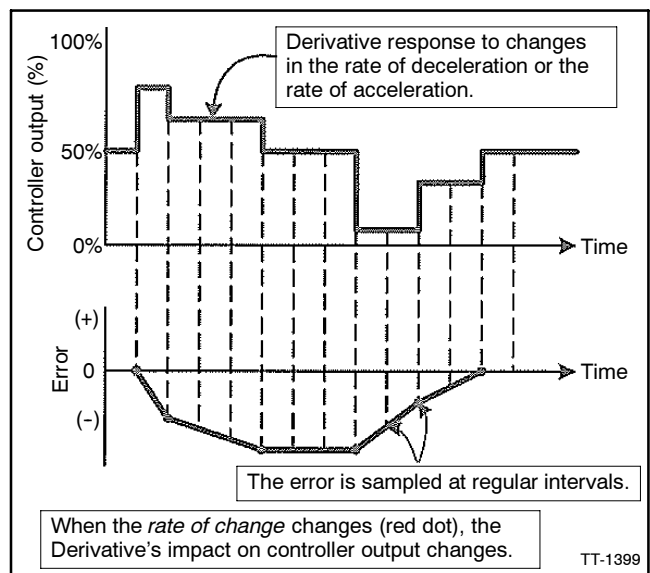

Figure 8-18 Derivative Value
7. **Derivative.** Enter the value from the Governor Parameter Summary. See Figure 8-18.